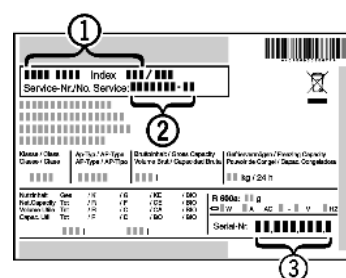

Fig. 46
- ▶ Read off the appliance name *Fig. 46 (1)*, service no. *Fig. 46 (2)* and serial no. *Fig. 46 (3)* from the model plate. The model plate can be found on the inside of the appliance on the left.